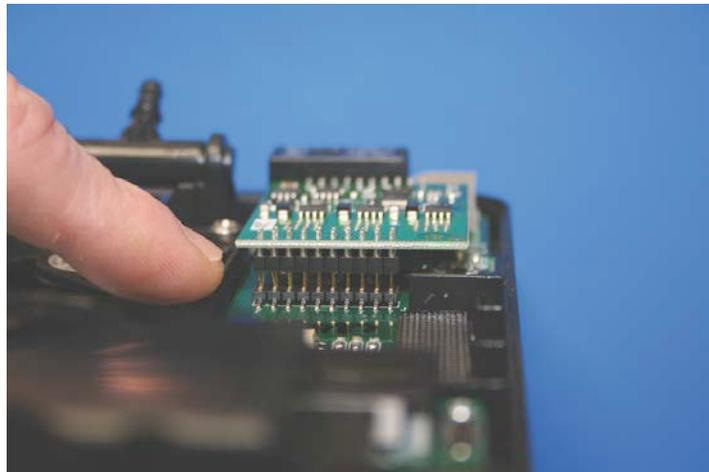

Figure 5.37
3. Locate the component side marked “top” to align to J16 on the circuit board, and the bottom correctly on to J15 on the main circuit board. (Figure 5.37)